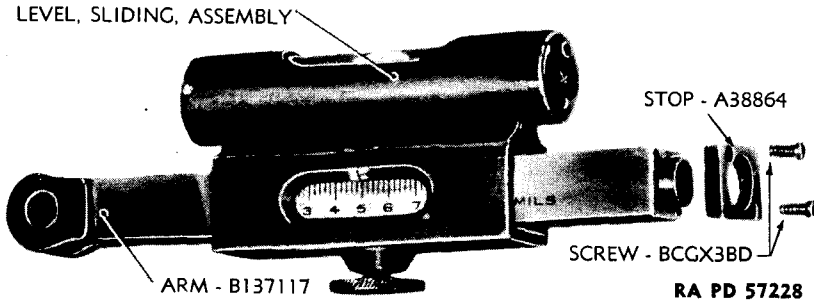

Figure 16—Gunner's Quadrant M1918—Sliding Level Stop Removed
c. Remove Sliding Level Assembly (figs. 16 and 17).
(1) Remove two screws securing sliding level stop to arm, and lift off stop.
(2) Loosen sliding level assembly by turning back on level clamping screw thumb knob, and remove sliding level assembly from arm.
(3) Lift level spring assembly out of sliding level guide.
(2) Place clamping screw knob over end of clamping screw so that screw end extends through hole and out of the flat surface of the knob.
(3) Place the assembly on a solid support, and rivet clamping screw end to clamping screw knob.
c. Install Sliding Level Assembly (figs. 16 and 17).
(1) Turn knob until level clamping screw is backed down.